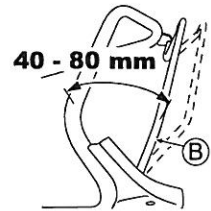

Fig. 15.
Adjust so that the machine runs (the drive clutch gets engaged) when the distance between Drive clutch lever (B) and the handle is 40 - 80 mm as shown in Fig. 15.